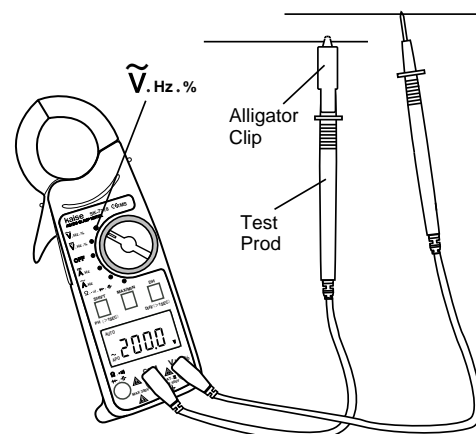

Fig. 5
6. Read the voltage on LCD. Refer to the Fig 5.